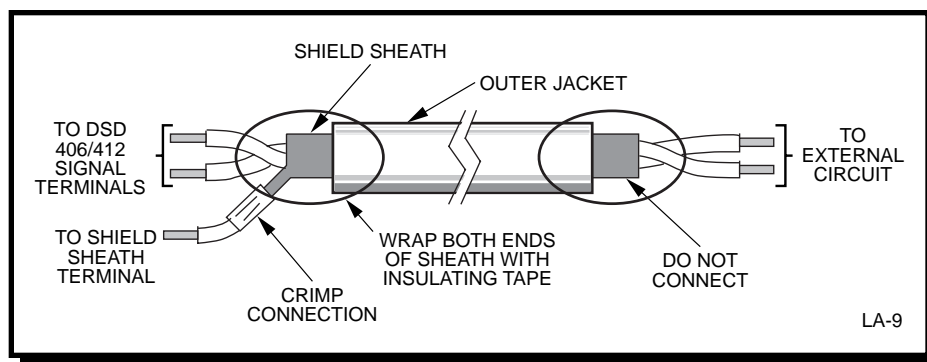

Figure 4. **Shield Sheath Termination**
- Provide shielded and twisted leads as indicated on the Schematic and/or Interconnection Diagrams. Connect all shields on shielded wire to system common (not ground) on one end only. Twisted shielded pair wire should be used for long runs. (Refer to Figure 4 for proper cable preparation.)